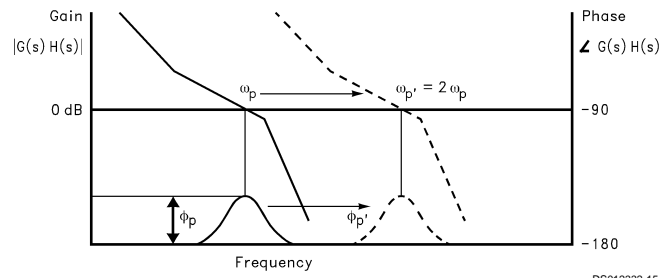

FIGURE 4. Open Loop Response Bode Plot
A plot of the magnitude and phase of $G(s)H(s)$ for a stable loop, is shown in *Figure 4* with a solid trace. The parameter ϕ_p shows the amount of phase margin that exists at the point the gain drops below zero (the cutoff frequency ω_p of the loop). In a critically damped system, the amount of phase margin would be approximately 45 degrees.
If we were now to redefine the cut off frequency, ω_p' , as double the frequency which gave us our original loop bandwidth, ω_p , the loop response time would be approximately halved. Because the filter attenuation at the comparison frequency also diminishes, the spurs would have increased by approximately 6 dB. In the proposed Fastlock scheme, the higher spur levels and wider loop filter conditions would exist only during the initial lock-on phase—just long enough to reap the benefits of locking faster. The objective would be to open up the loop bandwidth but not introduce any additional complications or compromises related to our original design criteria. We would ideally like to momentarily shift the curve *Figure 4* over to a different cutoff frequency, illustrated by dotted line, without affecting the relative open loop gain and phase relationships. To maintain the same gain/phase relationship at twice the original cutoff frequency, other terms in the gain and phase *Equations (5), (6)* will have to compensate by the corresponding “ $1/w$ ” or “ $1/w^2$ ” factor. Examination of *Equations (3), (4), (5)* indicates the damping resistor variable $R2$ could be chosen to compensate with “ w ” terms for the phase margin. This implies that another resistor of equal value to $R2$ will need to be switched in parallel with $R2$ during the initial lock period. We must also ensure that the magnitude of the open loop gain, $H(s)G(s)$ is equal to zero at $\omega_p' = 2\omega_p$. K_{VCO} , K_ϕ , N , or the net product of these terms can be changed by a factor of 4, to counteract with w^2 term present in the denominator of *Equations (3), (4)*. The K_ϕ term was chosen to complete the transformation because it can readily be switched between 1X and 4X values. This is accomplished by increasing the charge pump output current from 1 mA in the standard mode to 4 mA in Fastlock.